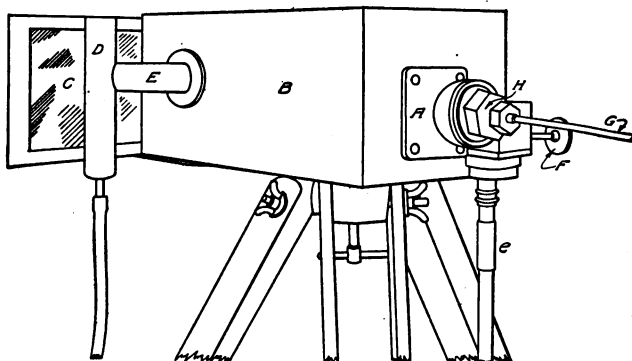
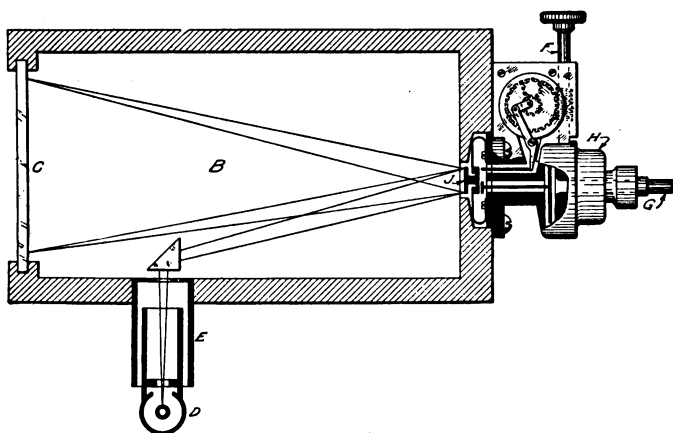
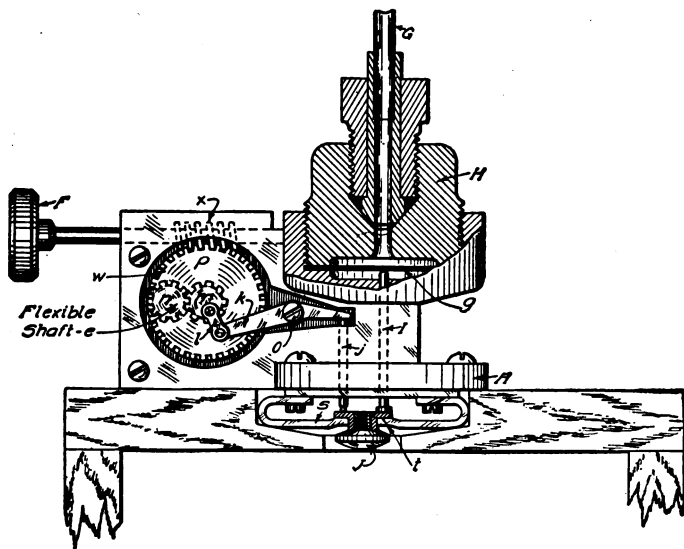

Fig. 53. General View of the Carpentier Manograph Mounted on Tripod Ready for Use
Fig. 54. Horizontal Section of Carpentier Manograph
Fig. 56. Detailed Section of the Diaphragm of the Hospitalier Manograph, Which Is Similar to the Carpentier
*Description of Manograph.* A general exterior view of a manograph, the Carpentier (French), is shown in Fig. 53, with horizontal and vertical sections at Figs. 54 and 55, and a detail of the mechanism which moves the mirror at Fig. 56. In Fig. 53, it will be noted that it consists primarily of a light-tight box *B*, which is generally mounted on a tripod for convenience. To one end of this is fixed a casting *A*, inside of which the mirror is secured, together with the mechanism for causing its movements. A ground-glass screen *C* is shown partially withdrawn from its position on the front of the
In the horizontal section, Fig. 54, the interior arrangements are shown quite clearly, the lettering being the same as in Figs.
53 and 55. Note how the beam of light from the lamp *D* passes through the tube *E*, is deflected by the prism against the mirror *J*, and then thrown on the screen or plate *C*. Referring to the detail view, Fig. 56, *A*, *F*, *G*, *H*, *I*, and *J* are the same as before. Gears *n* and *m* have an equal number of teeth, *n* being driven by the flexible shaft *e*. It will be noted that *m* carries a pin to which is attached a small connecting rod *l*. This is attached to the lever *k*, which is pivoted on the small screw *o* shown about midway of its length. The far end of this lever presses against the pin *j*, which in turn rests against the triangular plate *t*, to which the mirror *J* is held by the spring *s*.